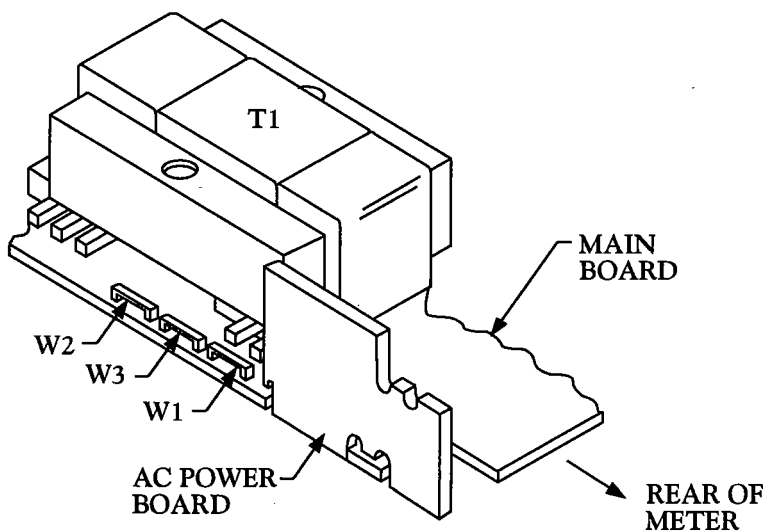

Figure 5-4. Transformer Jumpers
2. Locate the main board assembly and position it in front of you the same way as shown in Figure 5-4.